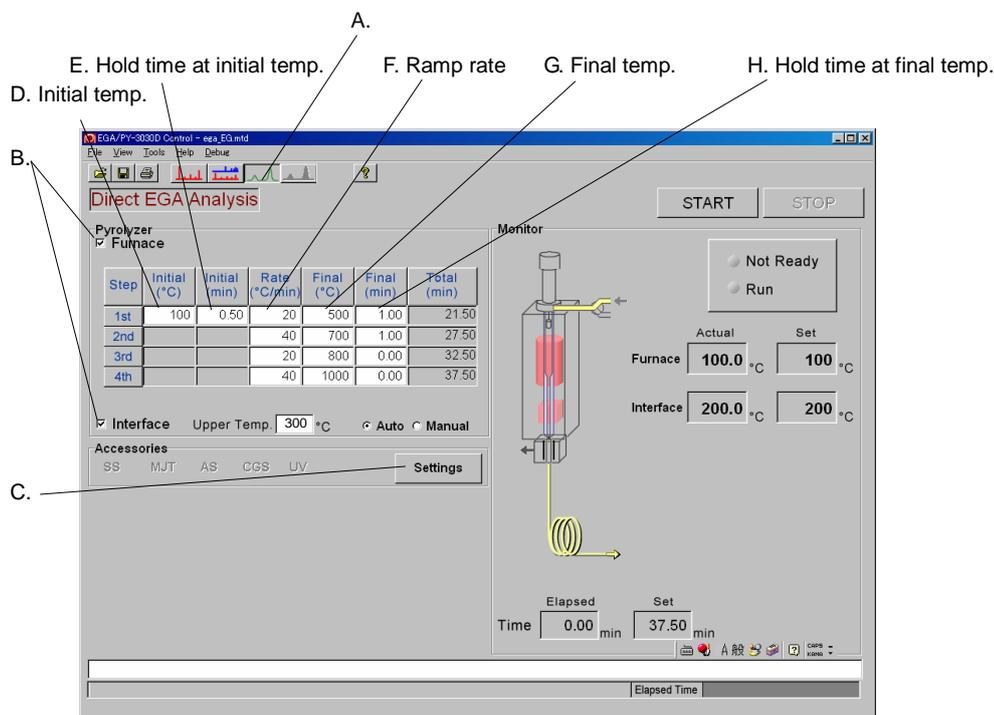

Fig. 4.14 Set-up screen of Direct EGA Analysis
From the menu bar, select “Tools” – “Analytical Modes” - “Direct EGA Analysis”, or click on the icon for Direct EGA Analysis (A) on the toolbar. The set-up screen shown in Fig. 4.14 is displayed.